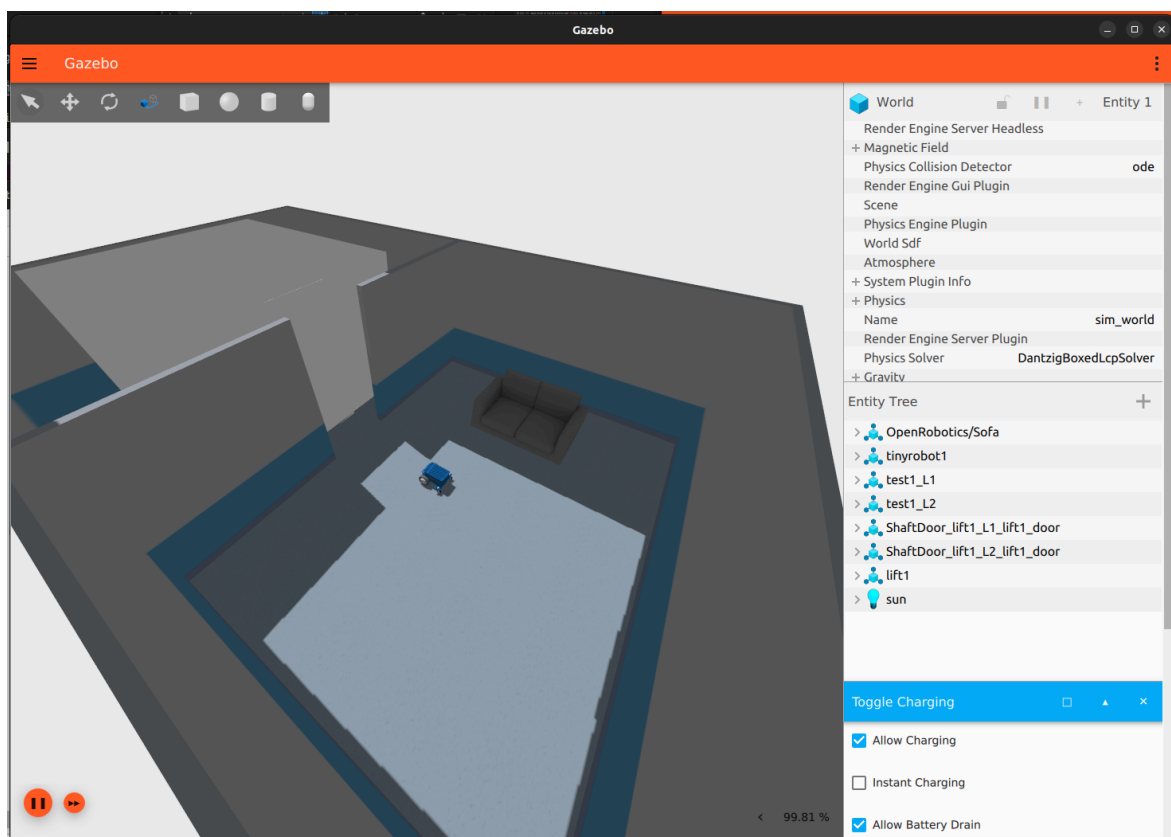

Figure 17: Simulation with models
- Run the simulation and check the results, you should have something similar to Figure 17.